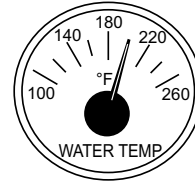

Figure 43. Coolant Temperature Gauge
8. The **coolant temperature gauge** (Figure 43) will indicate the coolant temperature. Under normal operating conditions the coolant temperature should be between 180°~225°F (75°~95°C) (**Green Zone**).